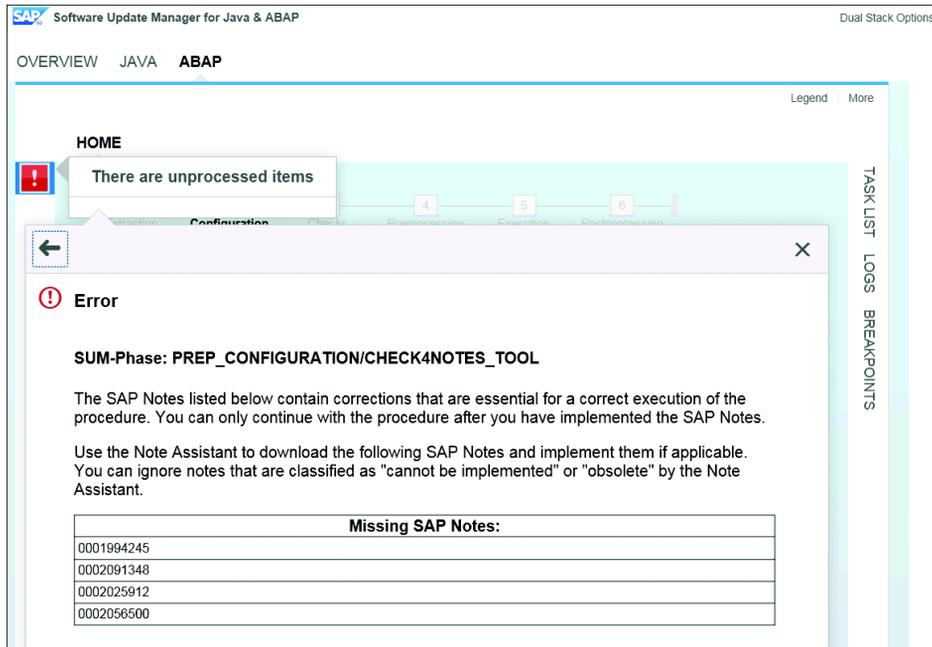

Figure 48 Implement Any Required Notes
3. If SUM prompts you to install any missing notes, read all notes to ensure no manual steps are required and implement them within SAP SolMan. Release the new transport for them and transport them to production before you upgrade the production system (see Figure 48).